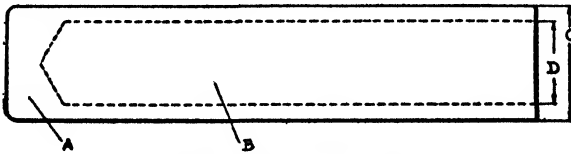

Fig. 30. Cone Bearing Drift
*Cup Drift.* In Fig. 30 is shown a drift for driving on cone bearings. The body *A* is made of cold-rolled steel of the size needed for the drift. It is drilled out at *B* to the desired size; the dimensions *C* and *D* should be to fit 15-millimeter and 17-millimeter bearings. As these are very handy tools around the shop, a variety of sizes should be made.